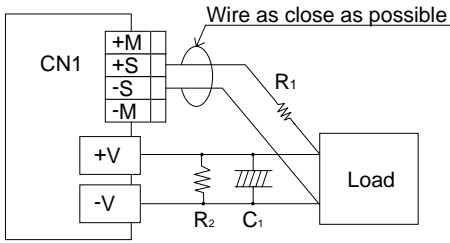

Fig.2.3 When using remote sensing function
- Wiring method with remote sensing is shown in Fig.2.3.
- ① Note connecting wires enough because the load current flows to sensing line and an internal circuit of power supply is damaged occasionally, when defective contact of the screw such as loosening happens in the load line.
- ② Confirm line drop should be at 0.3V or less using a thick wire from the power supply to the load.
- ③ Do not draw the output current from ±M at CN2.
- ④ When remote sensing is used, output voltage might become unstable because of a impedance of wiring and load condition. And the power supply should be evaluated enough.